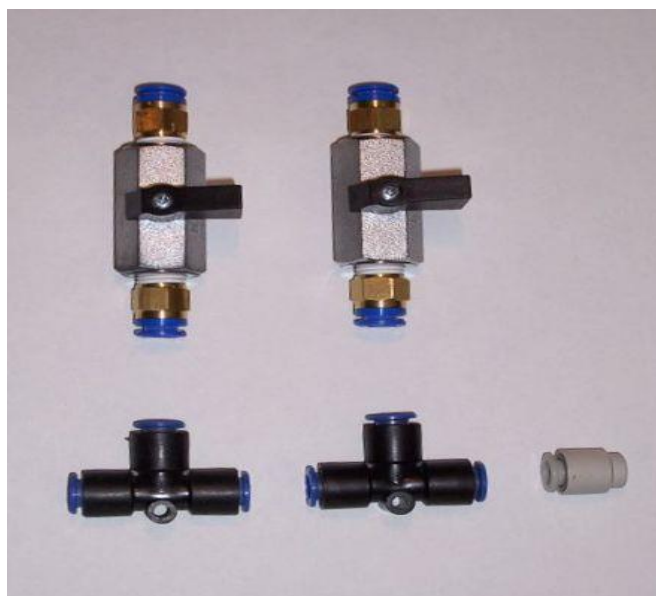

Figure 30
12.1 If fiber bundle blowing distance will exceed the normal capacity of one (1) gas bottle, two (2) bottles can be connected together to double the supply volume. Installer-provided equipment required will be two (2) gas bottles, two (2) Pressure Regulators (BEREG01 or BEREG02), and a Dual-Tank Isolation Valve Kit (BEISOV1). **See Fig. 30.**